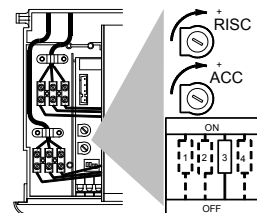

Figure 15.10
- To carry out the adjustment move the function selector 3 to the OFF position (Fig. 15.10) and use the device (ACC).
- After the adjustment operations bring the selector 3 of figure 15.10 back to the normal position (ON).